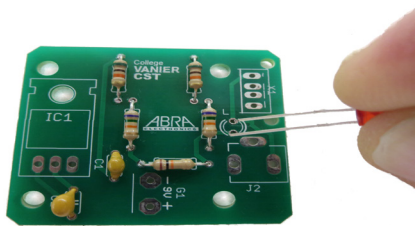

Fig. 6
6. Install and solder LED L with the short lead facing the L as per fig 6. Trim leads with diagonal cutter.